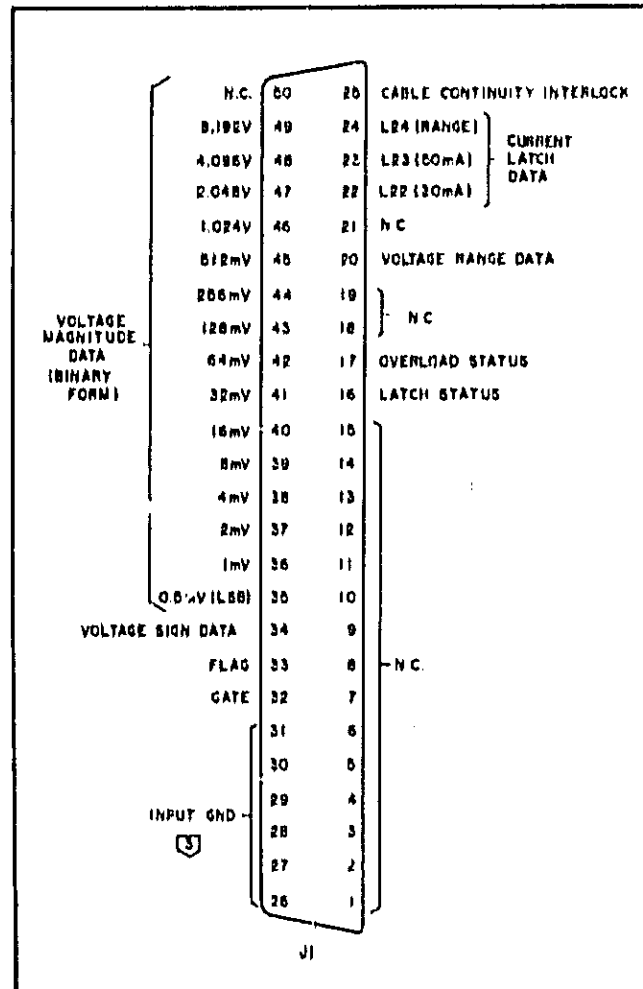

Figure C-1. Input/Output Data Connector
C-6 Input/output data is connected to the digital programming source by means of the rear connector (Figure C-1). The parameters associated with each of the signals of Figure C-1 are discussed in the following paragraphs.
C-32 Input data must be connected to (3) common of the DVS (pins 26 through 31) shown on Figure C-1. These pins are internally shorted together within the connector jack.